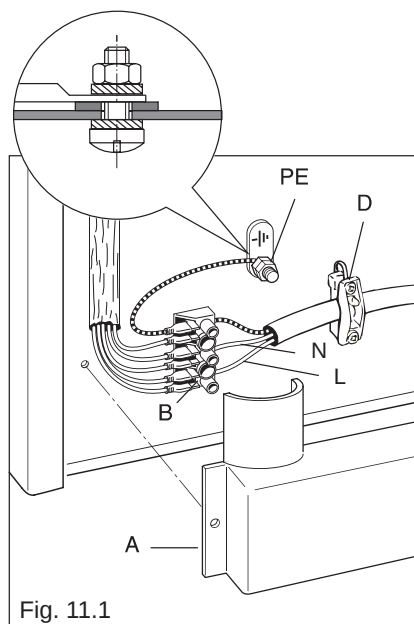

Fig. 11.1
- Remove the screw that holds shield “A” behind the cooker (fig. 11.1).